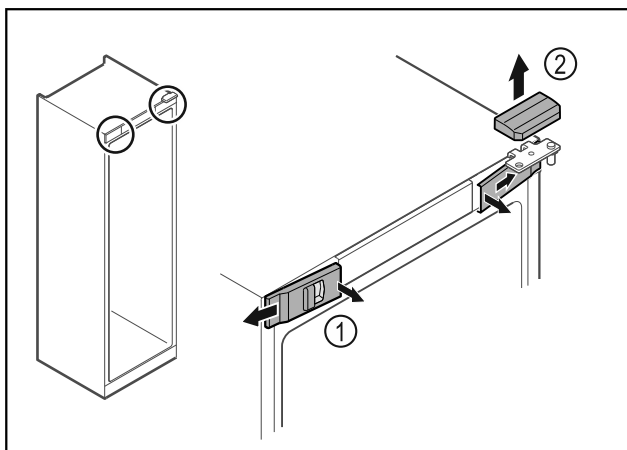

Fig. 7 *
- Unlatch the front covers Fig. 7 (1) on the inside and remove them sideways.*
- Lift off the upper cover Fig. 7 (2).*